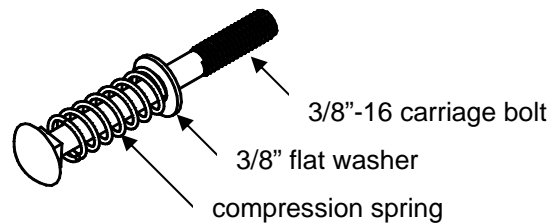

FIGURE 2
3. Slide the compression spring over the carriage bolt. Next, slide the 3/8" flat washer onto the carriage bolt. (see Figure 2).